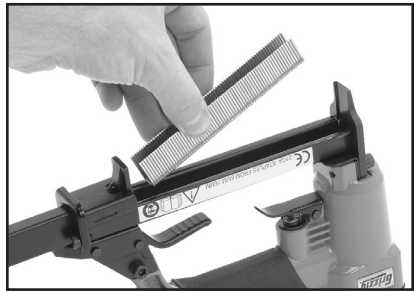

Figure 8. Loading staples.
3. Insert a strip of staples into the magazine, as shown in **Figure 8**, and slide the magazine pusher all the way forward.